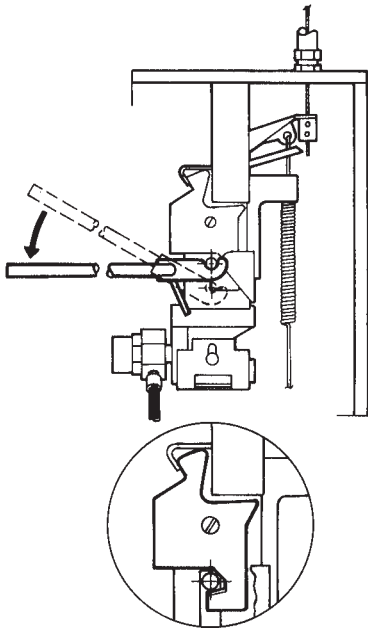

FIGURE 15
18. Cock the regulated release mechanism using cocking lever (Part No. 14995). See Figure 15.